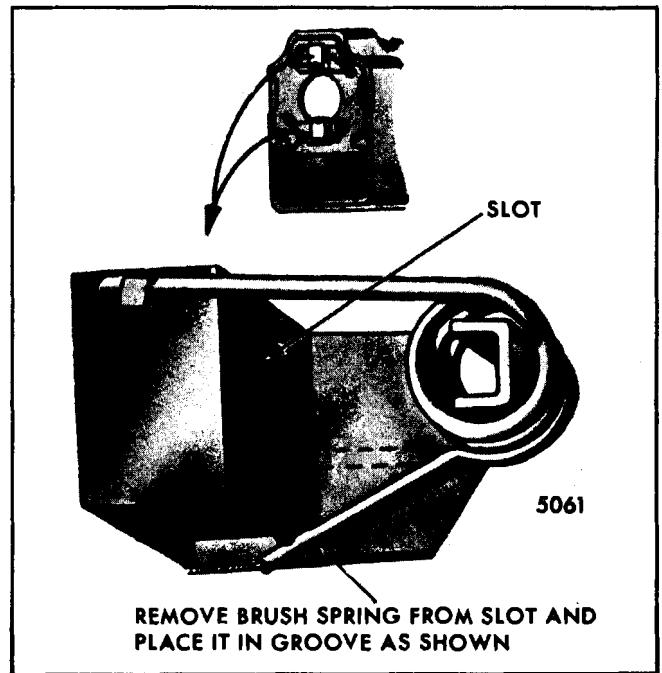

Fig. 2-16-Removing Brush Spring Tension
4. Turn motor section as required to gain access to brush plate assembly and release brush spring pressure against brushes (Fig. 2-16).